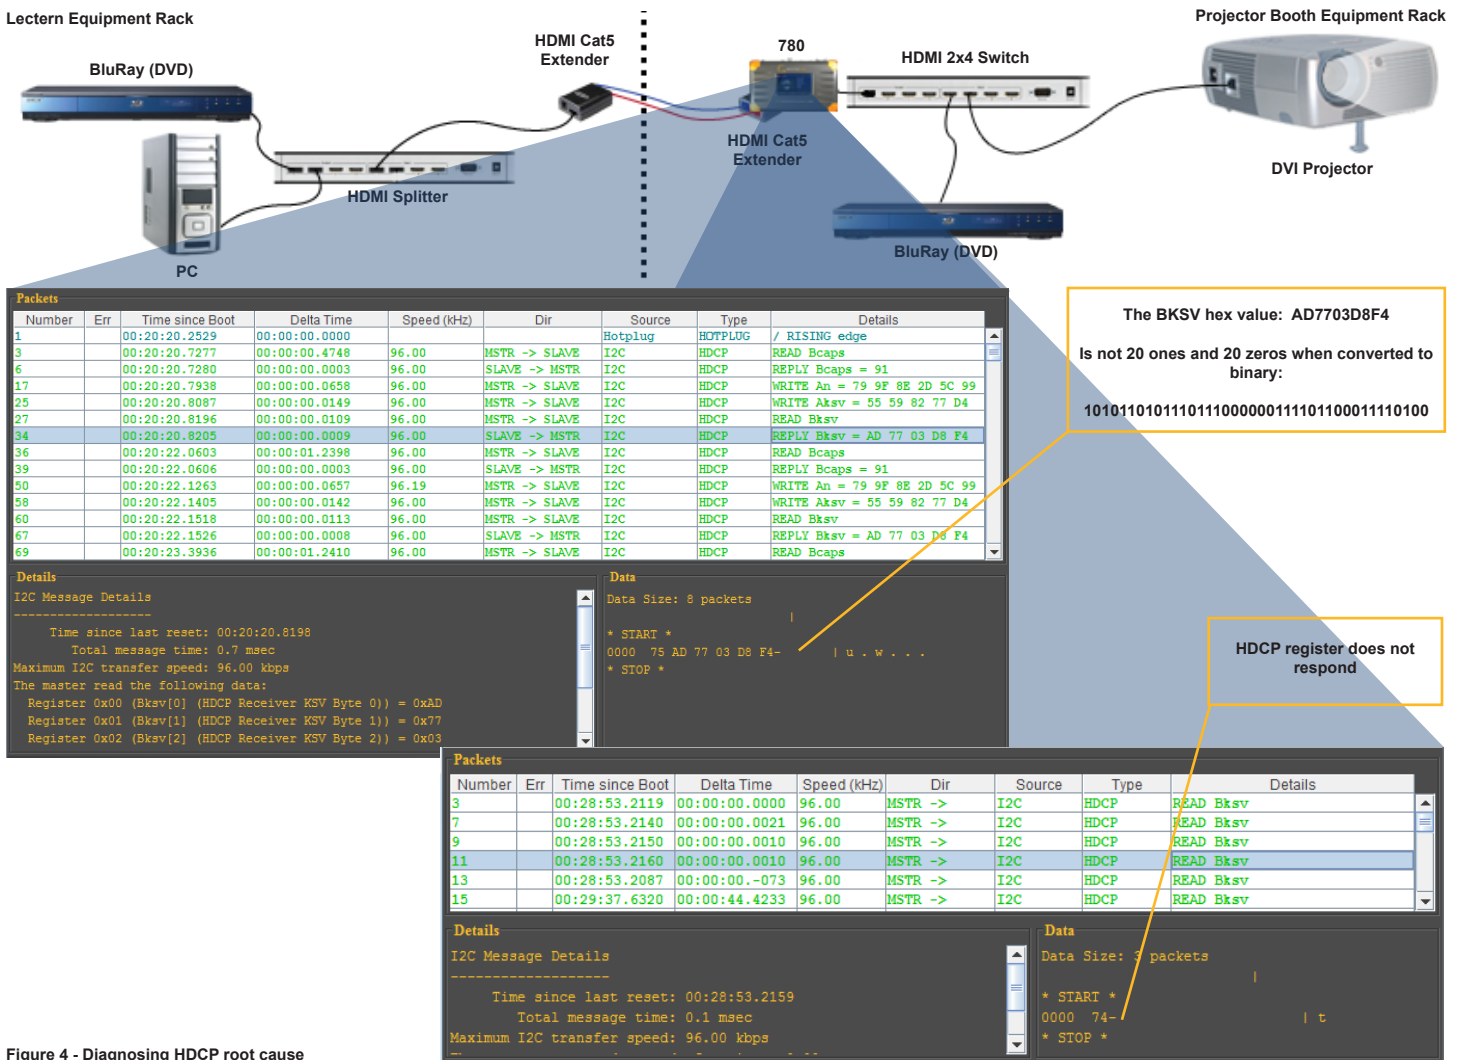

Figure 4 - Diagnosing HDCP root cause
**Diagnostic Procedure (Continued):** During the diagnostics it was also discovered that the HDMI 2x4 switch ports would lock up when the operator cycled through them. In this case the switch did not respond to any HDCP read from the 780 acting as a known-good HDMI-HDCP source. *Refer to Figure 4* Furthermore, the 780 also showed that the HDMI switch did not set the repeater bit indicating that it was an HDCP repeater. This can cause HDCP authentication failures because this repeater bit value (which is in the "BCAPS" register) is used in the calculation to validate the HDCP authentication.